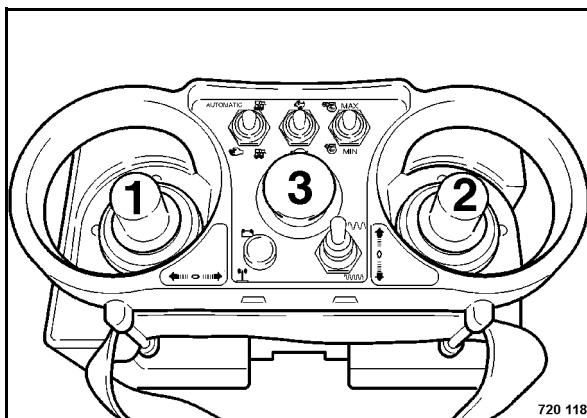

Fig. 43
- With the machine shut down actuate and hold one of the travel levers 1 or 2 (Fig. 43).